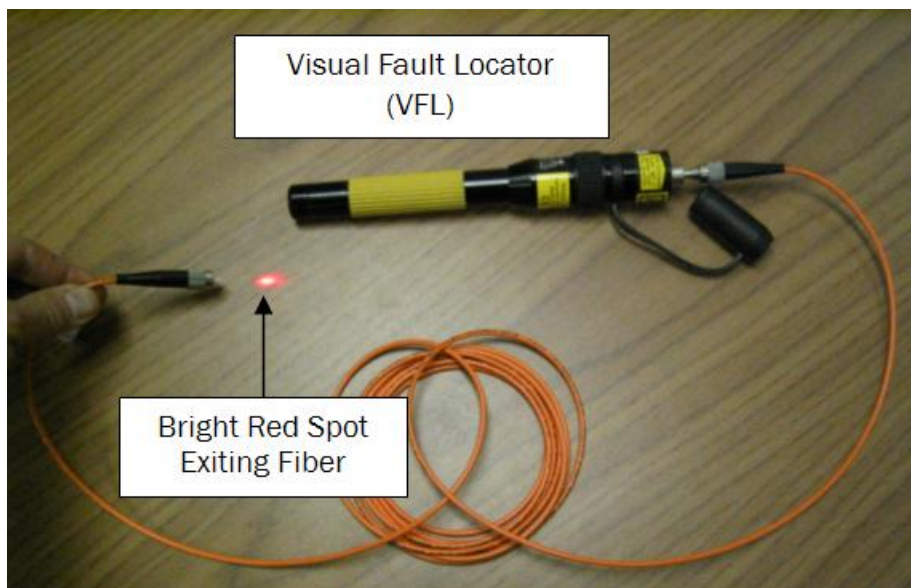

Figure 26. Verifying Optical Continuity With A Visual Fault Locator.
- STEP 2: Using a Visual Fault Locator (VFL) as shown in Figure 26, shoot light from either cable end. If an equally bright spot is visible exiting the opposite end (do this both ways), then we can assume that the optical cable link is probably functional. If a VFL is not available, a flashlight could be used but is not as productive to use due to the unevenness of the coupled light.